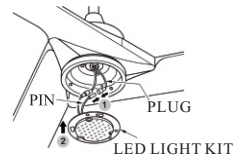

FIG.15
3. Plug together light kit wires from fan to light kit wires from LED light. (see Fig. 15)